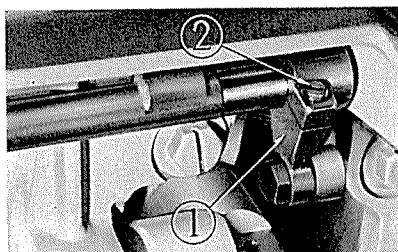

Fig. 15
16. Height of the feed dog (Fig.15)